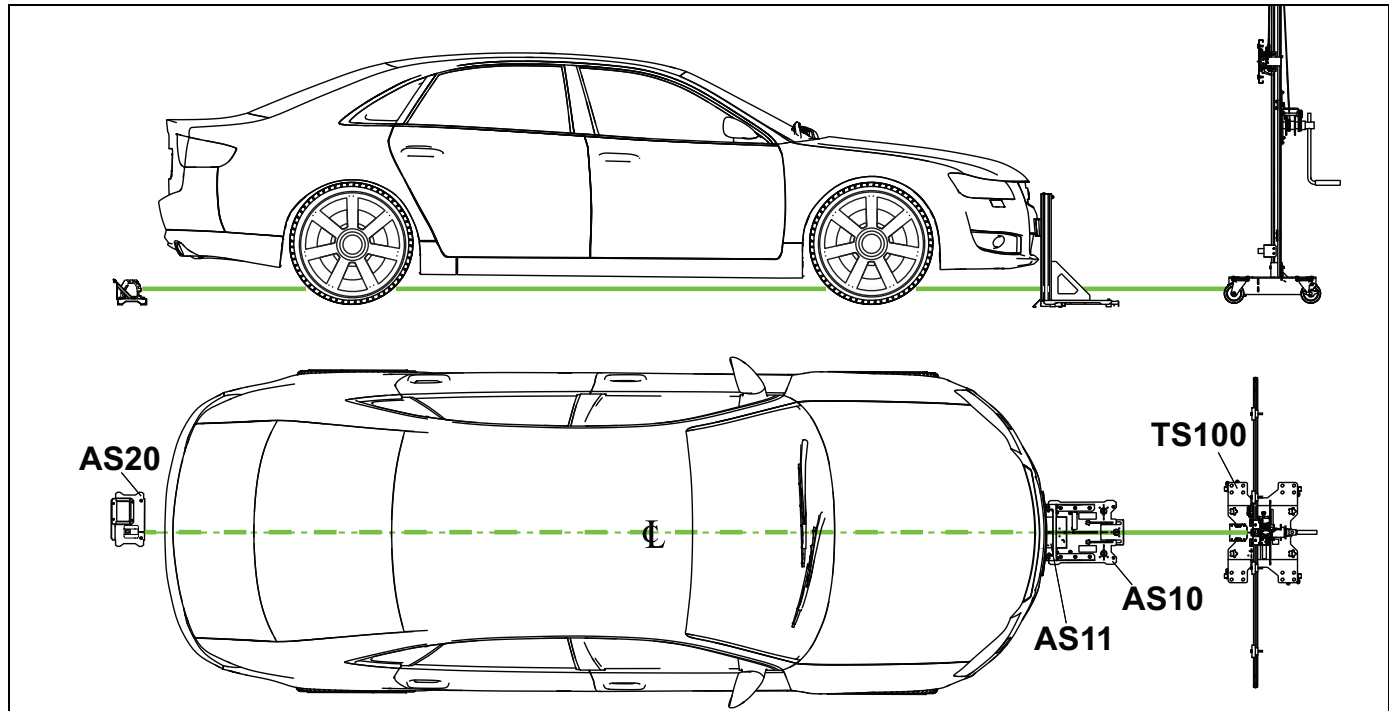

Figure 4-27
14. Reposition the AS10 and AS11 fixtures as they were previously in the front of the vehicle in alignment with the AS20 laser (vehicle centerline) (Figure 4-27).